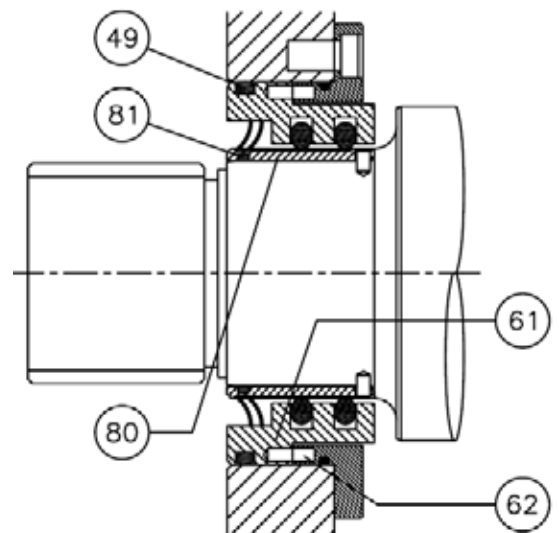
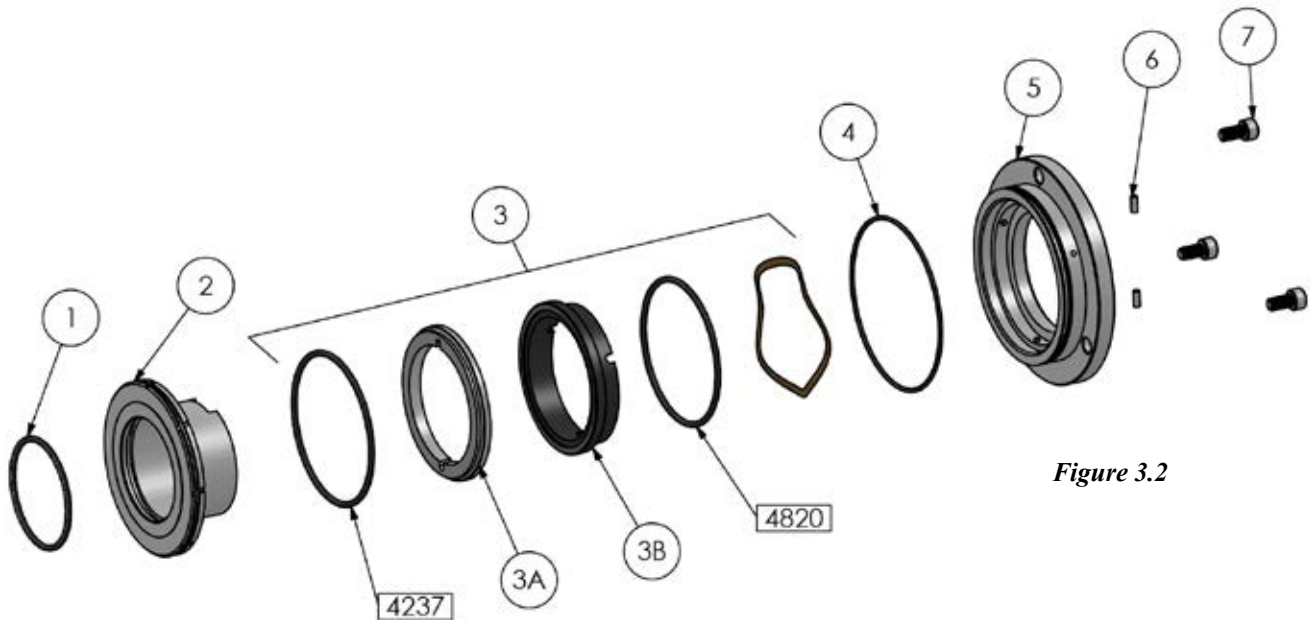

Figure 3.1
Figure 3.2
Remove shaft o-ring (item 27, Fig. 3.1) located behind the shaft splines. Use two long flat head screwdrivers 180° apart to pry the shaft sleeve/rotary seal holder (item 2, Fig. 3.2). Use razor blade or sharp flat head screwdriver to remove rotary seal face (item 3A, Fig. 3.2) from sleeve/rotary seal holder. Use two long flat head screwdrivers 180° apart to remove stationary seal holder (item 5, Fig. 3.2) along with stationary seal face (item 3B, Fig.3.2).
### 3.2.2 Single Mechanical™ Seal Installation ref. Figure 3.2